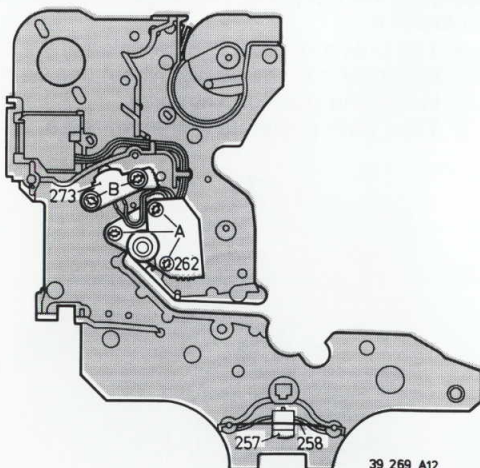

Fig. 3-1-18
- Undo the 3 bearing block screws A (Fig. 3-1-18).
- Unscrew tacho head, screw B (Fig. 3-1-18).